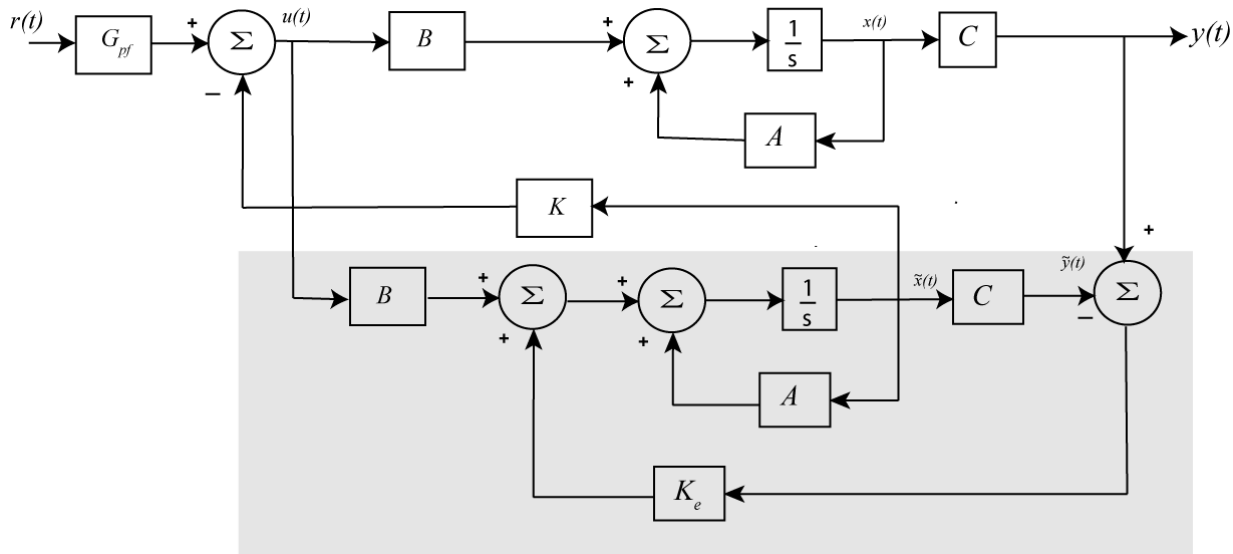

Figure 8. Full order observer state variable feedback structure.
a) Copy your program **Basic_1dof_State_Variable_Model_driver.m** to a new file **sv1_observer_driver.m**, then copy the Simulink file **Basic_1dof_State_Variable_Model.mdl** to **sv1_observer.mdl**. Modify these **new** files to implement state variable feedback using integral control. The basic integral control scheme is shown below in Figure 8.